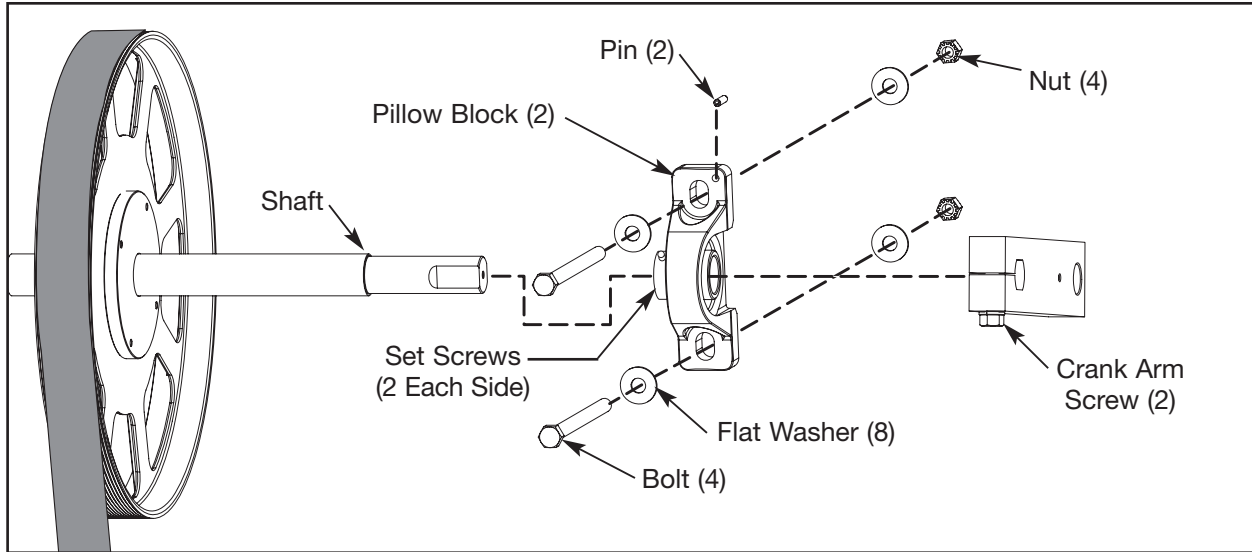

Figure 21
- A. Using a 7/16" socket wrench, loosen but do not remove the one screw on each crank arm. See Figure 21.
- A. Using a 1/8" Allen wrench, loosen but do not remove the two set screws on each pillow block. See Figure 21.
- B. Pull each pillow block off the shaft. See Figure 21.
- A. Slide a pillow block on each end of the shaft. See Figure 21. **NOTE:** Orientation of pillow block sleeve and set screws must go toward the inside. Do not tighten the set screws until step 13F.